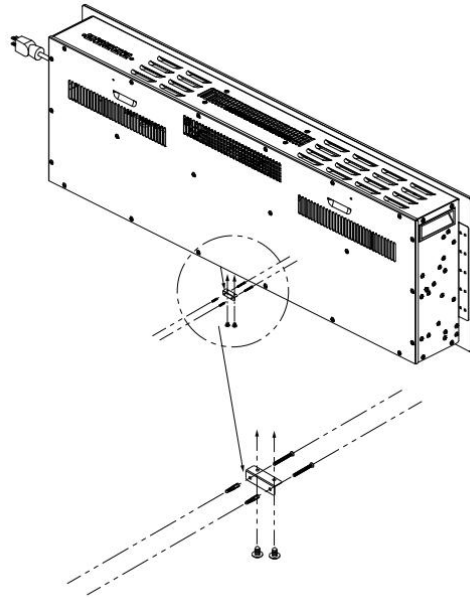

Fig 6
F. Fasten the metal bracket at the back of fireplace with 1pc 4x8mm screw, the other end to the wall with 2pcs of Drywall anchors. See Fig6